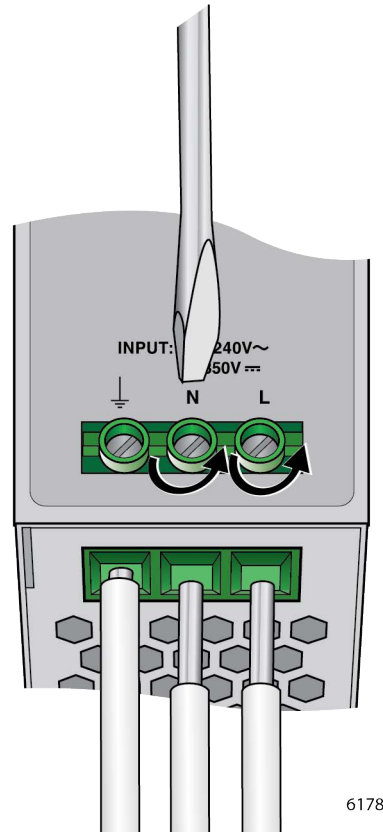

Figure 13. Installing the AC Power Wires
3. Insert the wires into the connectors on the bottom panel. See Figure 13 on page 41.